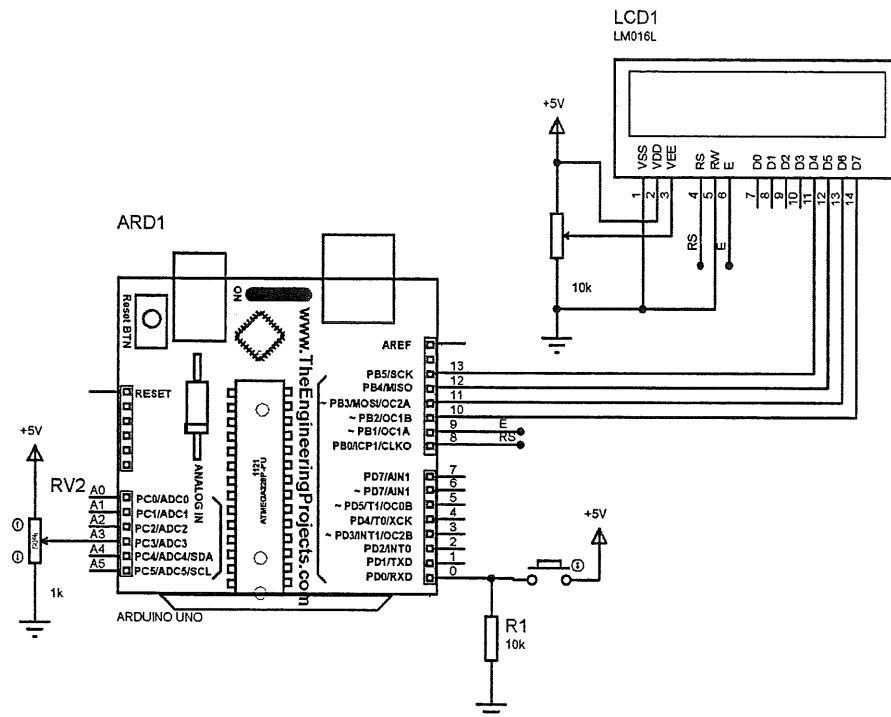

Figure 3
- a) Based on schematic given in Figure 3, produce a program to display:
- b) Based on schematic given in Figure 3, produce a program to: